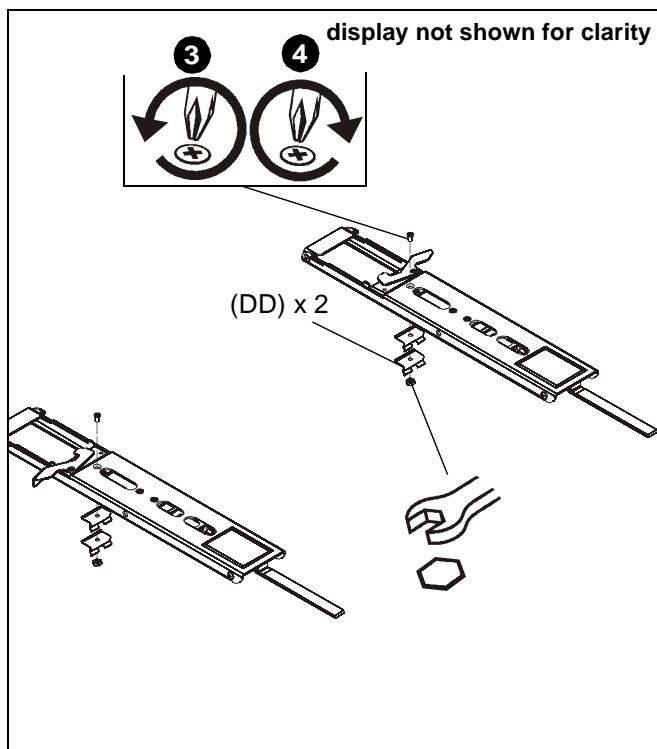

Figure 8
1. Remove display and attached uprights from wall plate (A) to gain access to spring clip screws.
3. Remove hex nuts and screws holding spring clips to uprights. (See Figure 8)
4. Use removed hex nuts and screws to install additional spring clips (DD) along with removed spring clips onto uprights. (See Figure 8)